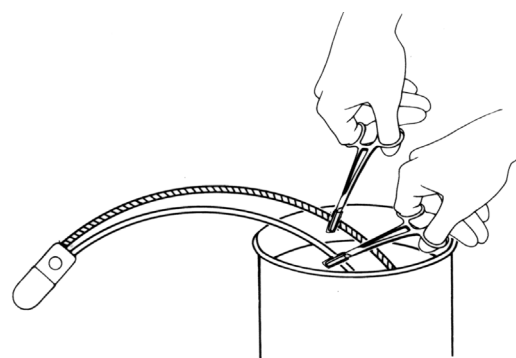

Figure 4-2b. Clamp Tubing With Ends In Filling Solution
4. While keeping tubing submerged, use tubing-shod hemostats to clamp (one notch only) each tube 4 cm or 5 cm from end. (**Figure 4-2b**)